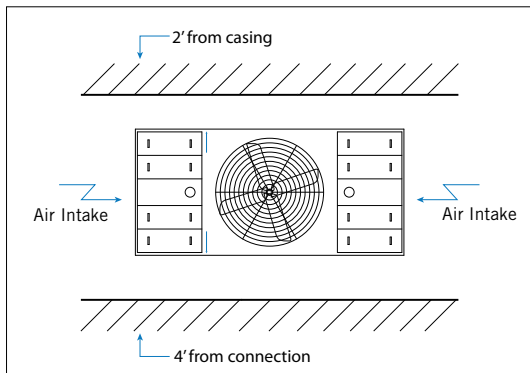

Figure 1: Plan View of the Recommended Unit Servicing and Maintenance Spacing for a Dual Air Intake Unit
4. Provide adequate space around the unit for piping and proper servicing and maintenance, as shown in **Figure 1**.